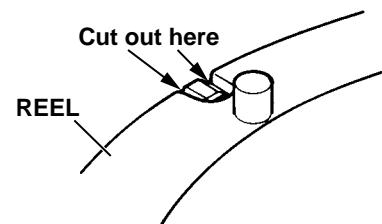

Fig. 9-4
(1) Cut off a part of the reel shown in Fig. 9-4 with a nippers or a knife to form a which is required when pre-winding the spring.